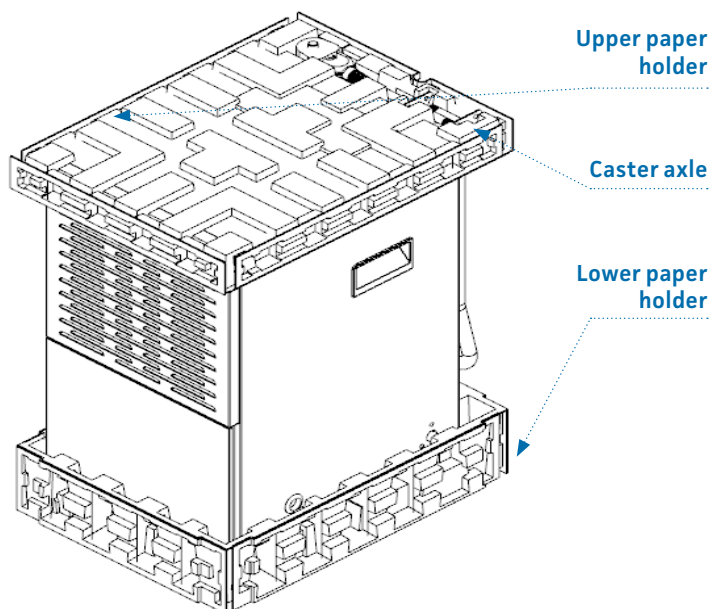
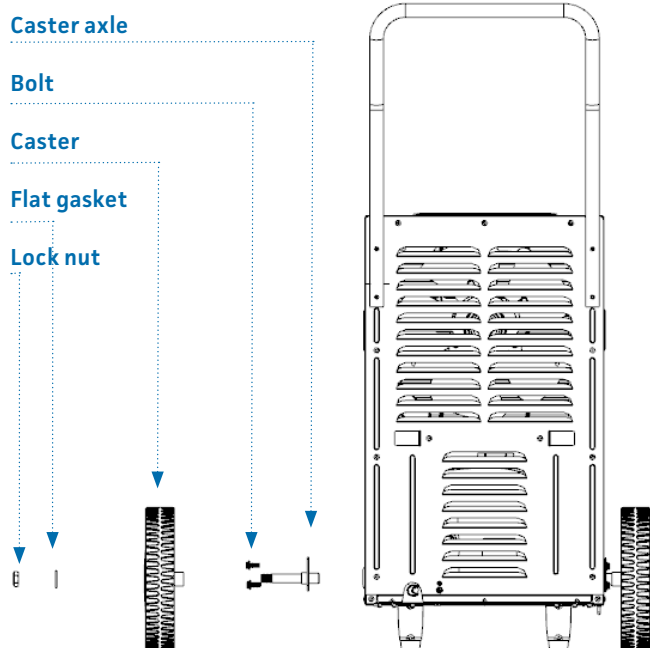

Figure 3
Figure 5
2.Installation method of casters: Remove the caster shaft from the upper paper tray and the casters from the lower paper tray. Place the castor shaft on one side of the base plate. Use three screws to fix it in the positioning holes of the base plate. Insert the casters into the castor shaft and tighten them with nuts. The placement position of the materials is shown in Figure 3 and Figure 4. The installation method is shown in Figure 5.